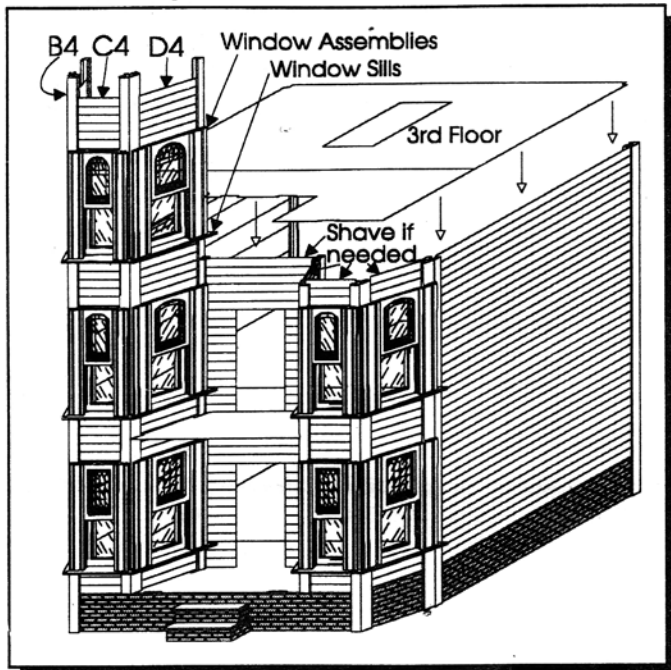

Figure 19
18. Install and make sure the tops of Siding Walls B3, C3, and D3 are the same height. If the tops of the Siding Walls E, F3, G3, and H3 are taller than the top edge of the 5-46, then shave the tops of the walls flush with the top edge of the 5-46. This is done because the 3rd floor protrudes past the tops of these walls. This should make the 5-46 and the Siding Walls the same height as the bay cornerposts. See Figure 19.
20. Finish the front of the tower by installing the 3rd Floor Window Sills, Window assemblies, Slider Moldings, and Siding Walls B4, C4, and D4. See Figure 19.